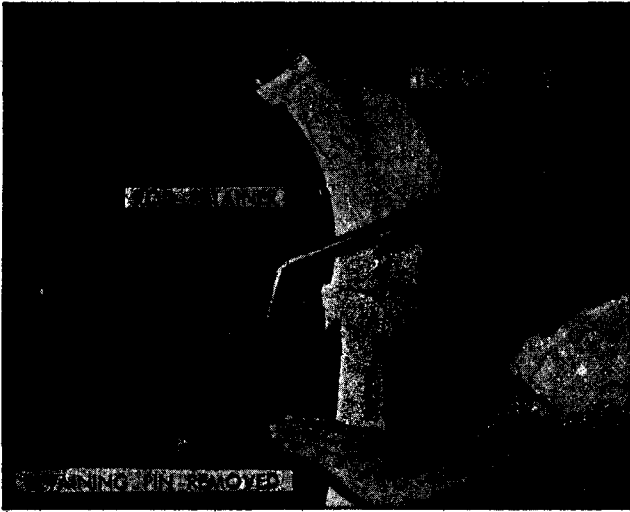

Fig. 9-23-Torque Rod Tool - Torque Rod Release or Adjustment
2. Gain access to torque rod retainer (Fig. 9-23) and with tool J-23719 or equivalent, apply downward pressure on torque rod. Carefully remove torque rod pin and allow torque rod to rotate forward to a fully relaxed position (Fig. 9-23).
1. Engage end of torque rod with tool J-23719 or equivalent, apply downward pressure against rod and remove retaining pin (Fig. 9-23).
2. Relieve tail gate torque rod at torque rod retainer with tool J-23719 or equivalent (Fig. 9-23).